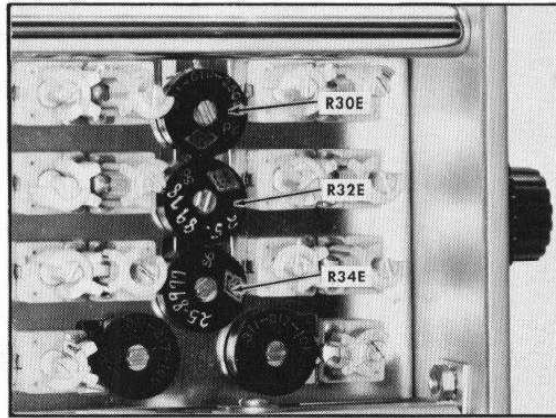

Fig. 6-8. Location of DC Balance adjustment R30E, R32E and R34E.
- d. Adjust R30E (Fig. 6-8) for minimum signal amplitude.
- f. Adjust R32E for minimum signal amplitude. See Fig. 6-8.